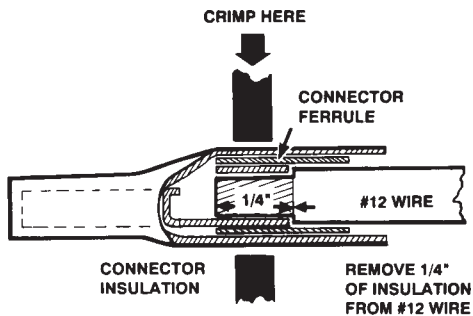
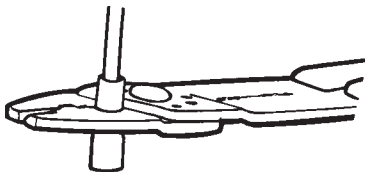
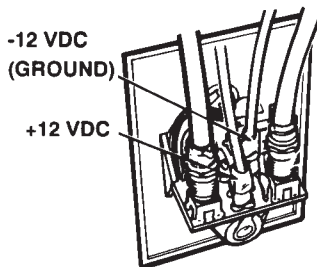
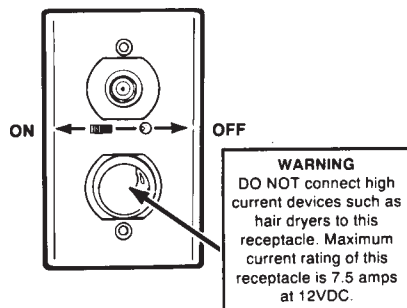

FIGURE 8
FIGURE 9
FIGURE 10
FIGURE 11
STEP 8. Install terminals on wires from 12 VDC source as shown in Fig. 8. Crimp terminals with Craftsman type 4 crimping tool in Fig. 9 or equivalent. Push wires onto tabs on terminal board as shown in Figure 10. If in doubt as to the polarity of the wires, connect them temporarily to tabs on circuit board in Fig. 10 and move switch on front of outlet to left, (in Fig. 11) if light comes on polarity is correct.